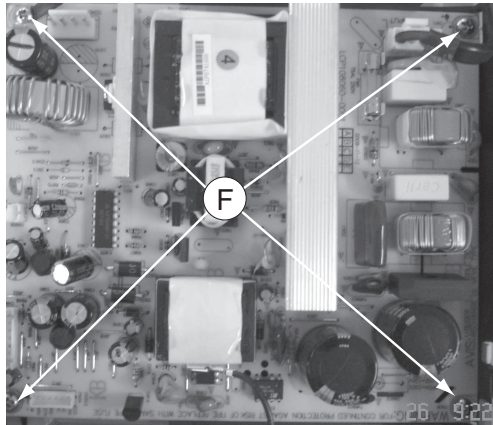

Figure 9
- 1) Loosen 4 screws “F” on the top of Power Board as shown in figure 9.